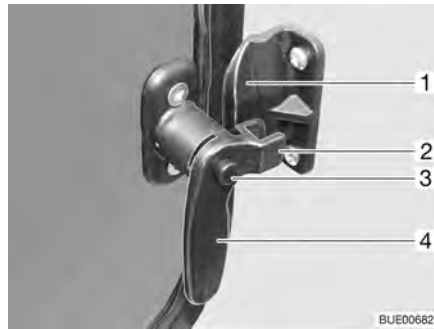

Fig. 29 Window in the conversion door, catch lever closed
- Press the safety knob (Fig. 29,3) down and hold it.
- Turn the catch lever (Fig. 29,4) towards the centre of the window.
- Turn the catch lever (Fig. 29,4) towards the window frame. The fork (Fig. 29,2) is entirely on the inner side of the window catch (Fig. 29,1).